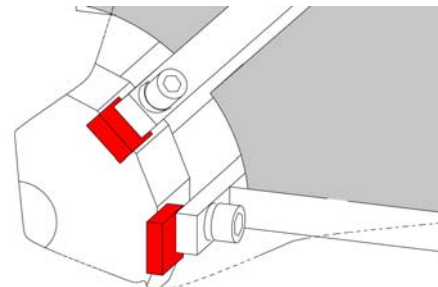

Figure 8
- **The supplied spacer discs definitely have to be placed as assembly aids between the segment foot and the rotor hub (to install the last segment) (Figure 8).**